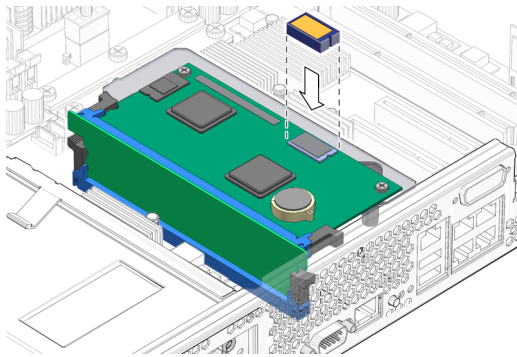

FIGURE 4-17 Pressing the NVRAM Into the Socket
2. Align the notch in the NVRAM socket with the key on the underside of the NVRAM, and press it into place (FIGURE 4-17).